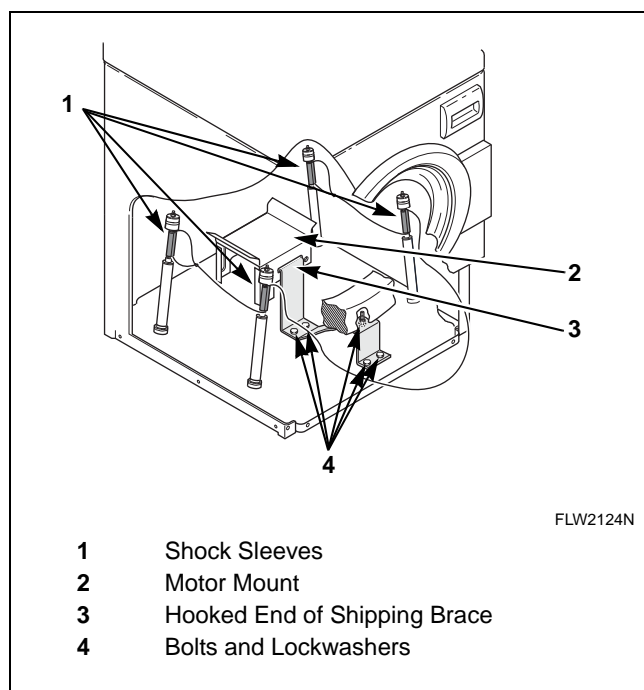

Figure 21
- Place the shock sleeves on all four shock absorbers. Refer to *Figure 21*.
- Insert hooked end of shipping brace into the open slot of the motor mount. Refer to *Figure 21*.
- Attach the brace with the five bolts and washers. Refer to *Figure 21*.